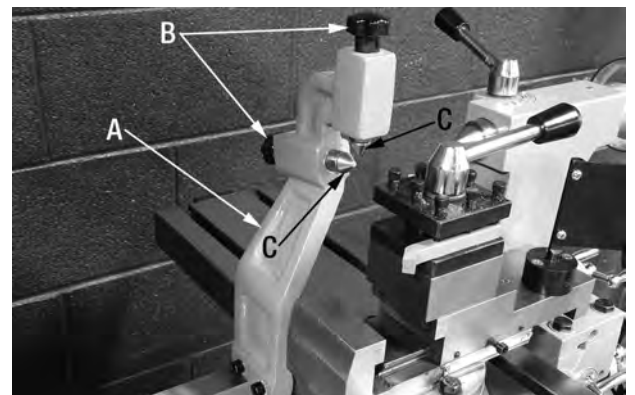

FIGURE 17
The follow rest (A) Fig.17 is used on long workpieces supported by a dead centre mounted in the tailstock. It helps keep deflection to a minimum. The cutter applies some pressure to the part, in the case of thin parts there is a tendency for the part to deflect away from the cutter. The follow rest prevents this from happening, the brass fingers support the workpiece near the point of contact with the cutter.
1. The follow rest (A) Fig.17 gets installed to the leading edge of the carriage as shown.
2. Loosen the adjusting knobs (B) of each brass finger (C) clockwise until they stop.
4. Lubricate the brass finger (C) surfaces with oil prior to seating them on the workpiece and occasionally during use.